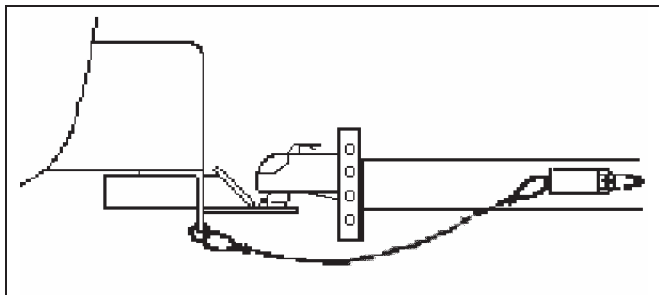

Figure 4-7 - Breakaway Brake Connection
- Connect the pullpin lanyard to the tow vehicle so that the pullpin will be pulled out before all of the slack in the safety chains is taken up. See figure 4-7. Do **not** connect the pullpin cable to a safety chain or to the hitch ball or hitch ball assembly. This would keep the breakaway brake system from operating when it is needed.
Before towing, check that the breakaway lever and chain are properly positioned. See figure 4-7. If the breakaway lever and chain are not located correctly due to either the chain being pulled during use or by accident, it **MUST** be reset prior to the trailer being moved.